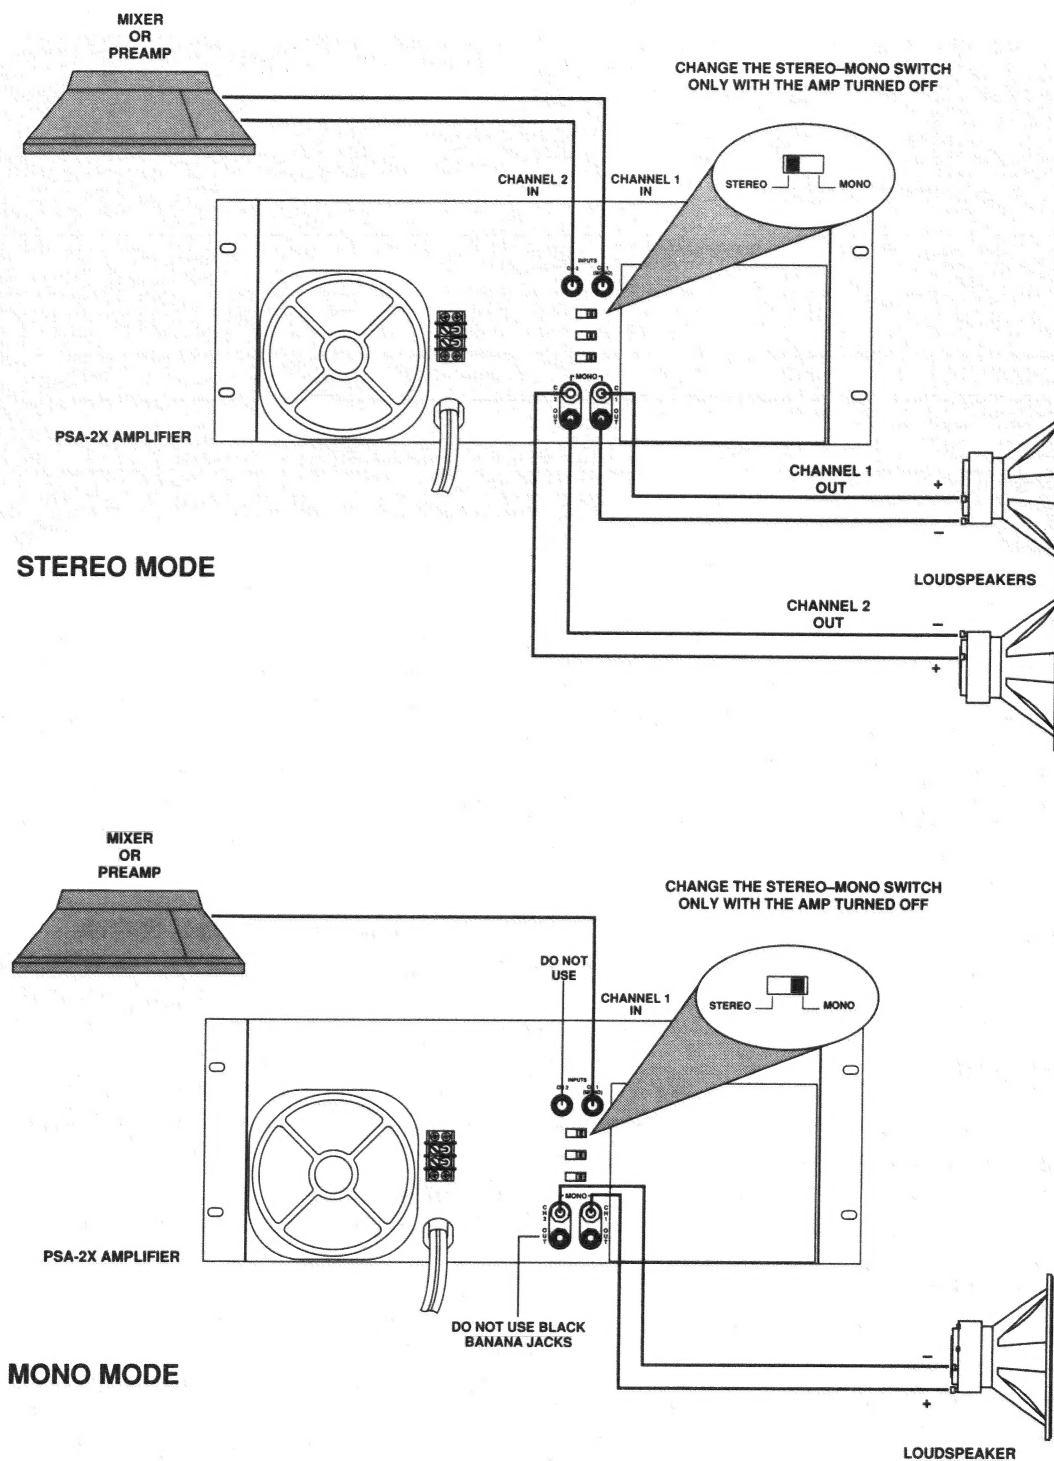

Fig. 3.1 System Connection for Stereo and Mono Operation
Figure 3.1 shows how to install a PSA-2X amplifier into a sound system for either STEREO or MONO operation. Please use care in making connections, selecting signal sources and controlling the output level.
The installation is very intuitive in STEREO mode. The Channel 1 input signal is amplified at the Channel 1 output. The same is true of Channel 2. To put the amplifier into STEREO mode, first turn the amplifier off, then slide the Stereo-Mono switch to the STEREO position, and properly connect the output wiring. Observe correct loudspeaker polarity (see the first example in Figure 3.1) and be very careful not to short the two outputs together while in STEREO mode.
2. Connect the load across the two red banana posts with the positive lead from the load attaching to the red post of Channel 1 and the negative lead of the load attaching to the red post of Channel 2 (see the second example in Figure 3.1).